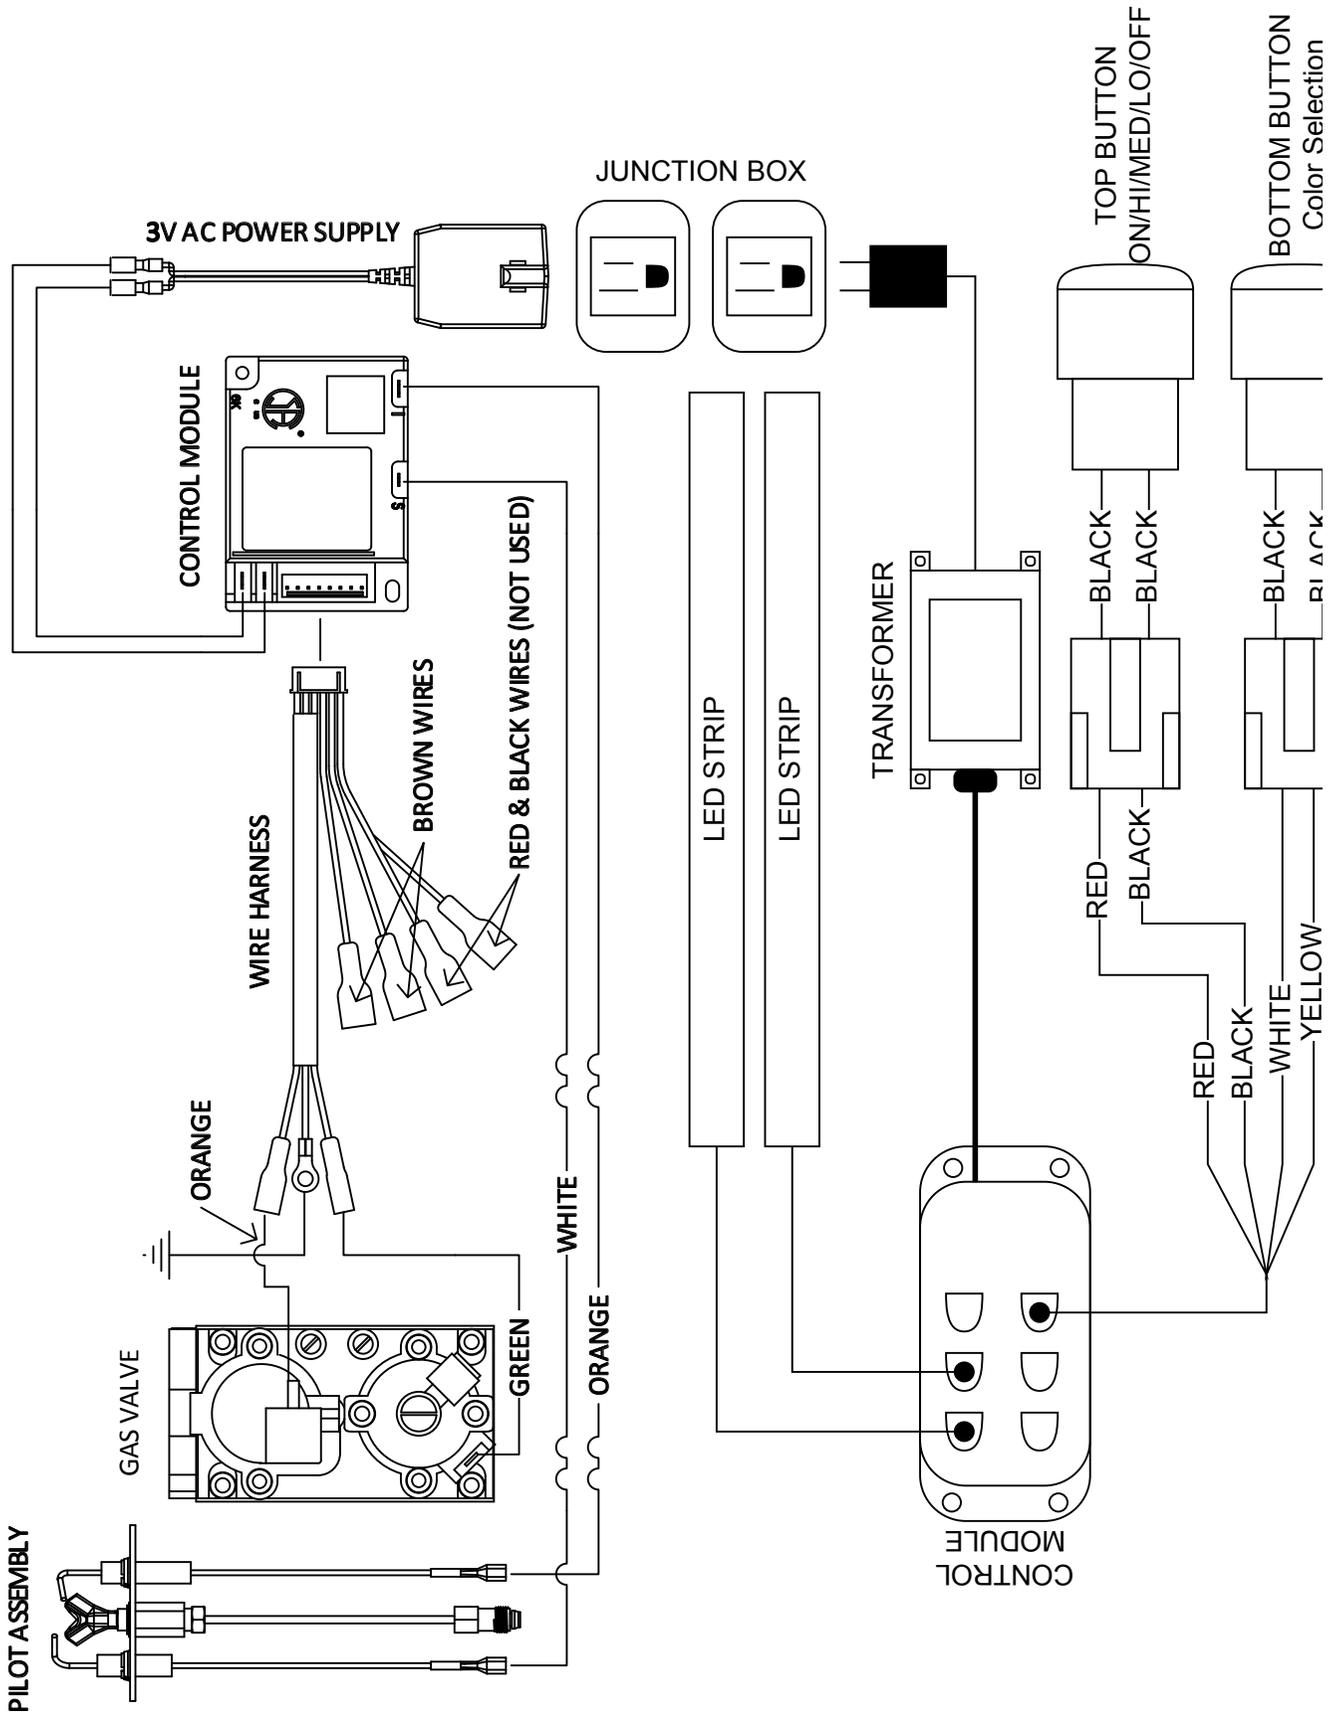

Figure 5.4. Wiring diagram
- Locate controls by lifting engine and using support legs. Remove three (3) screws at the bottom of cover showing access to intellifire control module and valve.
- The rocker switch wire (Black/white) must be plugged into the two brown wires on the control wiring harness. There is no incorrect connection for these two wires. Shown in wiring diagram (Figure 5.4.)